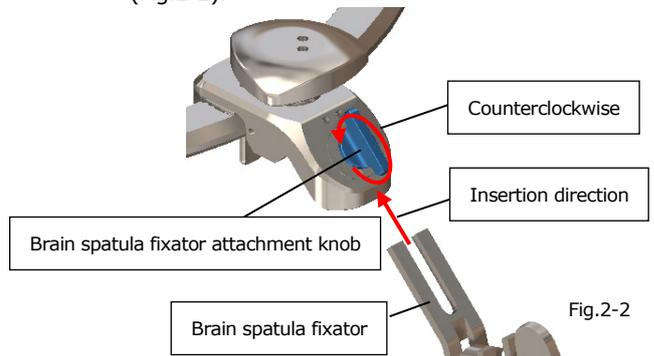

Fig.2-2
(2)-3 Rotate the brain spatula fixator attachment knob counterclockwise and stop the operation when you feel resistance (Fig.2-2). Excessive rotation may result in a loss of functionality.
(2)-4 Insert the brain spatula fixator into the protrusion (Fig.2-2).